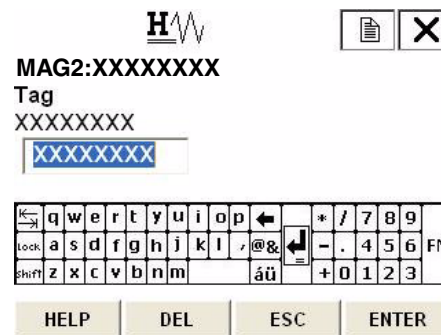

Figure 150.
Figure 150 is then displayed.
2. Once the display as shown in Figure 150. appears, use the arrow key up, down, right or left and numerical keys to enter the number. After entering, press F4 (ENTER). If F3 (ESC) is pressed here, the selection is canceled and the display returns to the Basic setup menu.